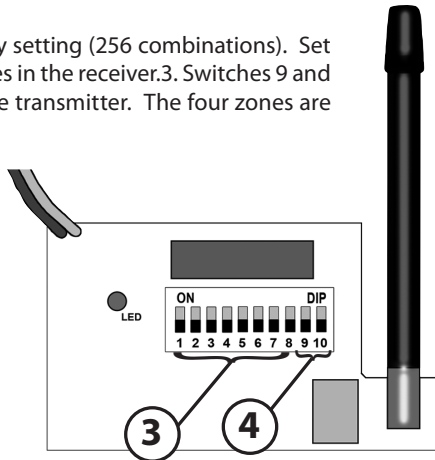

figure 3
2. Locate the 10 dip switches on the transmitter module (figure 3).